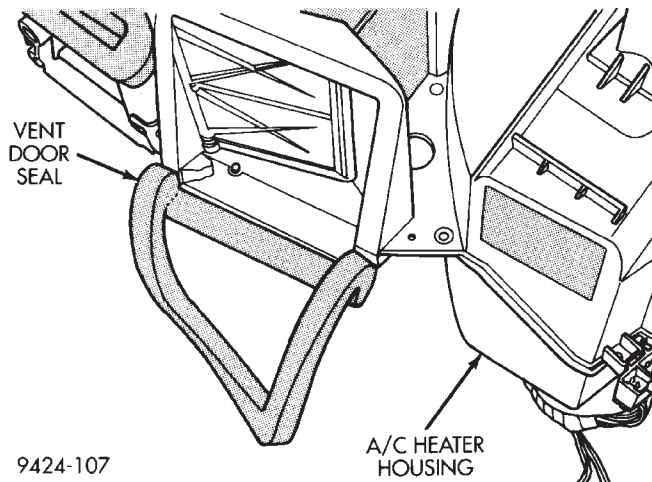

Fig. 69 Vent Door Seal
(15) Remove vent door seal from housing (Fig. 69).